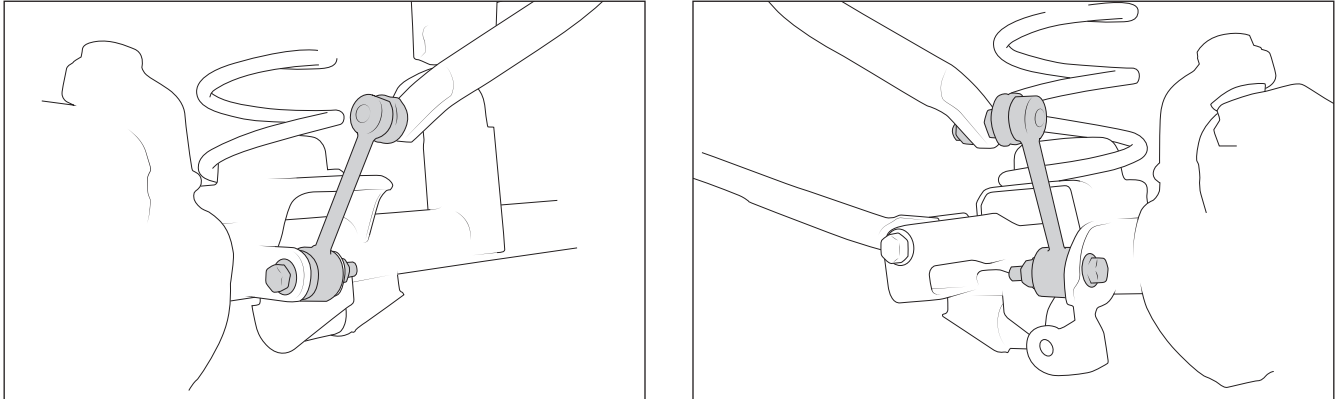

Figure 16
8. Remove and save all sway bar links and hardware. Note orientation, new links will be installed in the same way (Fig. 16)
- B. For each side attach the upper end stud to the sway bar in the same manner as the original front links had been (nut on frame side of bar). NOTE: The upper stud has a different thread than the rest of the M12 fasteners in the suspension—it is a “normal” pitch versus a “fine pitch.” Tighten to 40 ft-lbs. (refer to Fig. 16 for proper orientation.)